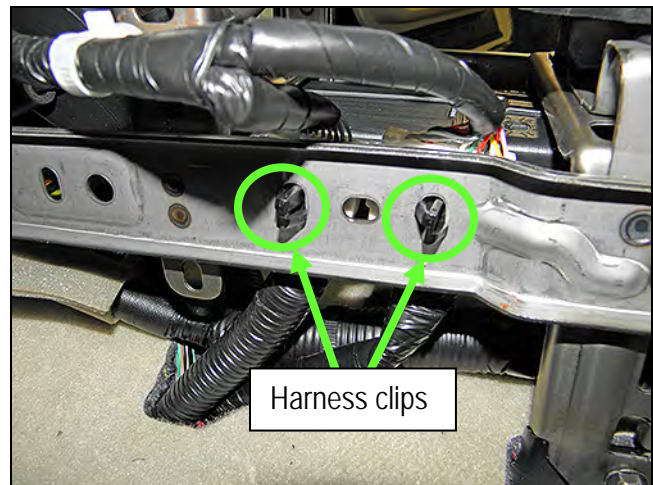

Figure 37B
20. Unclip the two harness connectors shown in Figure 37B from the driver's side of the center console brace.